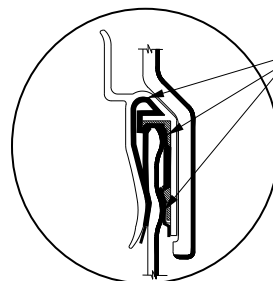

FIGURE 6
3. Apply the mildew resistant bathroom silicone caulking inside the snap fit extrusion throughout the entire length. This has to be applied to all six snap fit extrusions on the product. See Figure 6.